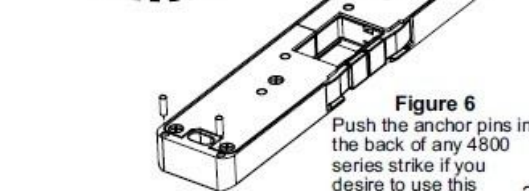

Figure 6
12. If you intend to use the anchor pins system, insert them into the four holes on the back side of the 4800. See Figure 6. If you also intend to use the 1/8" thick spacer plate, you can now slip the plate over the pins.